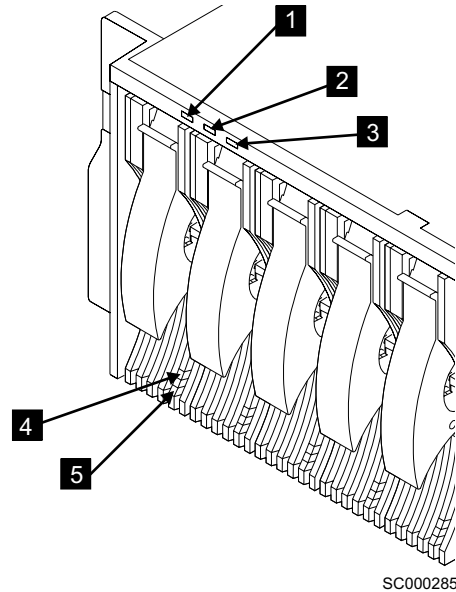

Figure 45. Checking the lights
2. Refer to Figure 45.
The 2104 Model DS4 has three lights. The green power light **1** comes on and stays on. The amber check light **2** comes on for approximately 2 seconds and goes off. The unit identity light **3** is off. See Figure 45.